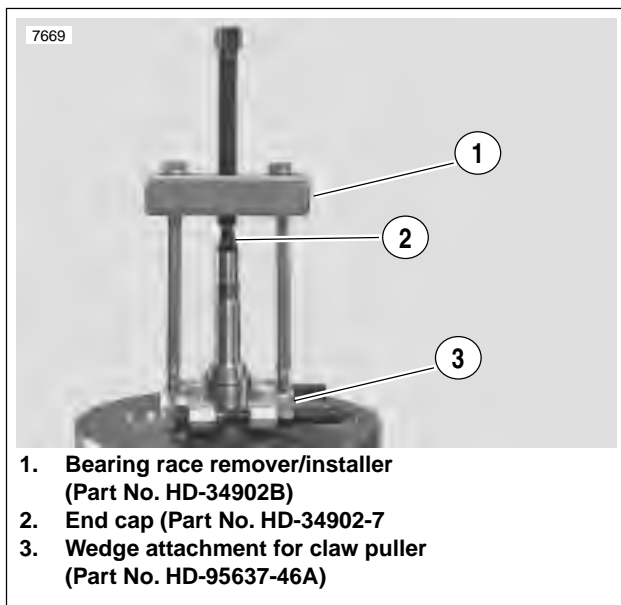

Figure 3-142. Removing Pinion Bearing Inner Race
1. See Figure 3-142. To remove pinion shaft inner race, use WEDGE ATTACHMENT for CLAW PULLER (Part No. HD-95637-46A) with BEARING RACE REMOVER/INSTALLER (Part No. HD-34902B) and END CAP (Part No. HD-34902-7). Apply heat to race to aid removal.
7. See Figure 3-142. Pull inner race from pinion shaft using WEDGE ATTACHMENT for CLAW PULLER (Part No. HD-95637-46A) with BEARING RACE REMOVER/INSTALLER (Part No. HD-34902B) and END CAP (Part No. HD-34902-7). Apply heat to race to aid removal.